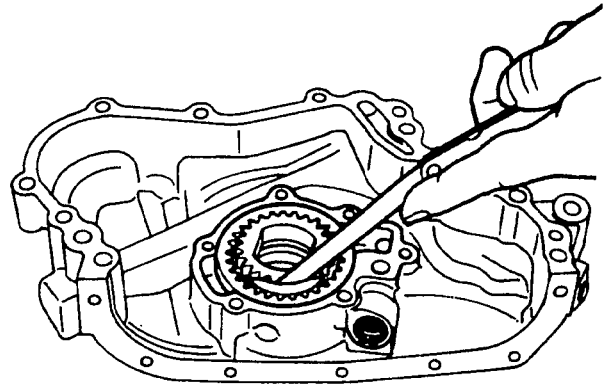

FIGURE 9-29. CHECKING CLEARANCE BETWEEN OUTER GEAR TOOTH END AND CRESCENT
3. Check the clearance between the outer gear tooth and crescent (Figure 9-29).